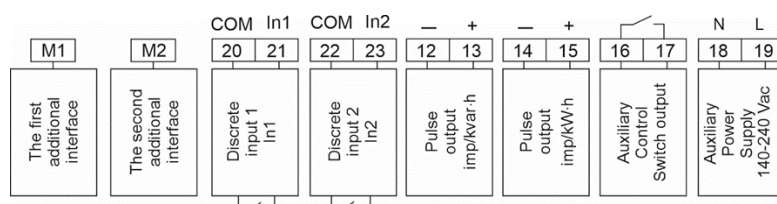

Fig. 3. Numbering of contacts of meter's connectors
6.5. The circuit for connecting the main test output shown in Figure 3.